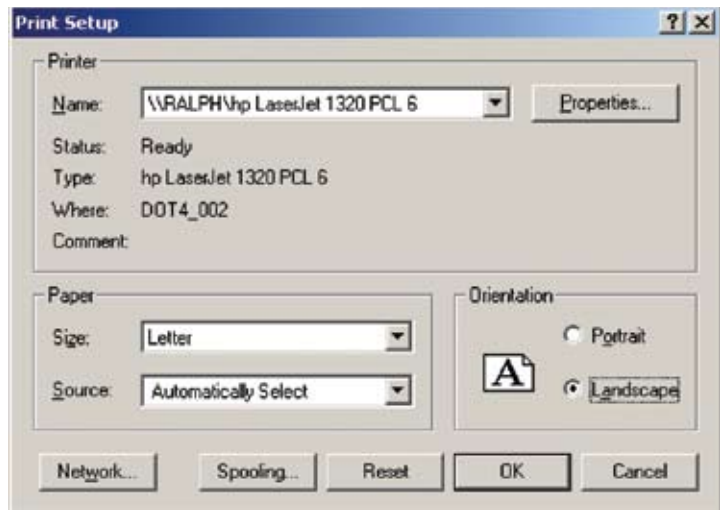

Figure 1.4
- A Print Setup dialogue box appears (see figure 1.4).